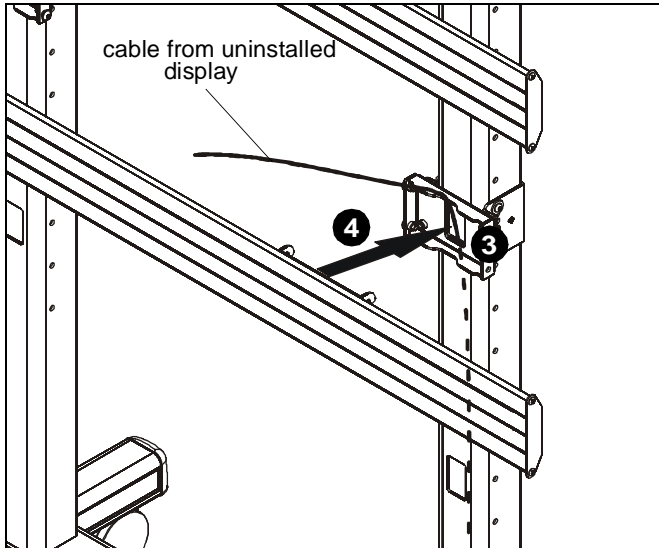

Figure 23
3. If rails needed to be installed on top of cable management holes, cables may be routed through quick connect bases (Q) prior to the rails being installed. (See Figure 23)
4. Install rails according to Rails Installation section making sure cable is routed through cable opening on quick connect base (Q). (See Figure 23)